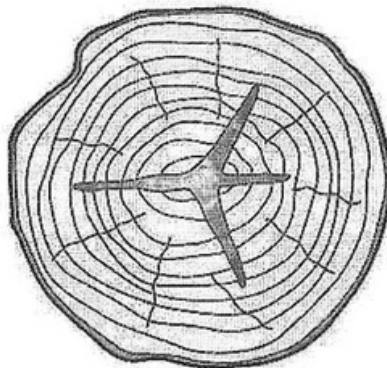

Figure 7
8. **Figure 7** shows a type of timber defect. What is the correct name of this defect? Write your answer on the line below. [1]